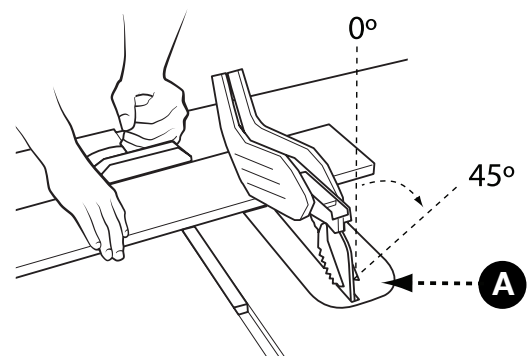

FIGURE 26
Bevel crosscutting is the same as crosscutting except the bevel angle (A) is set to an angle other than  $0^\circ$ . When making a bevel crosscut, place the miter gauge in the right miter slot so that the blade is tilted away from the gauge and hands (Fig. 26).